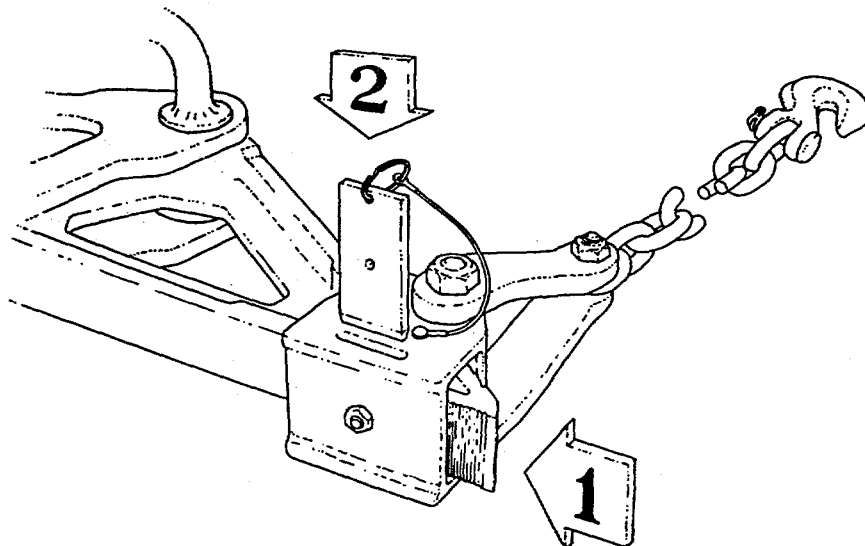

Figure 2-8.
- 2.4.3. Slide the CHAIN ATTACHMENT over the JAW TIP with the pin side towards the center of the SPREADER TOOL. Align the RETAINING BAR notch in the CHAIN ATTACHMENT with the groove in the JAW TIP. (Figure 2-8, Step 1). Slide the RETAINING BAR in place until it locks into the retainer. (Figure 2-8, Step 2). Do this to both arms. At this point, the SPREADER TOOL is capable of exerting 10, 000 pounds of pulling force.